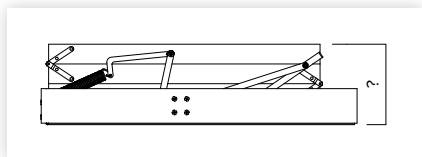

figure 2
- The area for the opening must be clear of wiring, plumbing and structural members such as beams and trusses with a minimum clear height above the ceiling of 326mm for P30 or 410mm for D28 (figure 2).